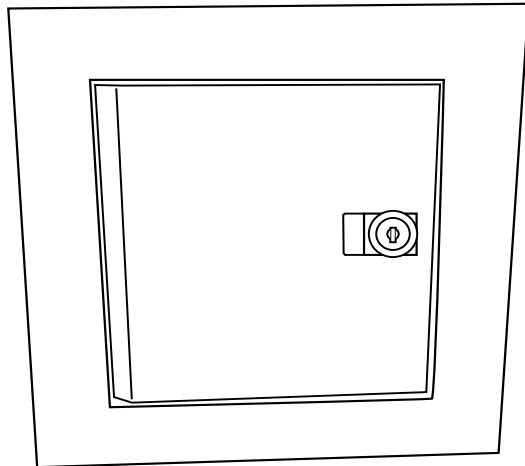

Fig. 8 Cabinet door closed and locked.
Step 7: Insert key into the lock, push door closed, turn key clockwise to lock cabinet. Remove key. See Fig 8.